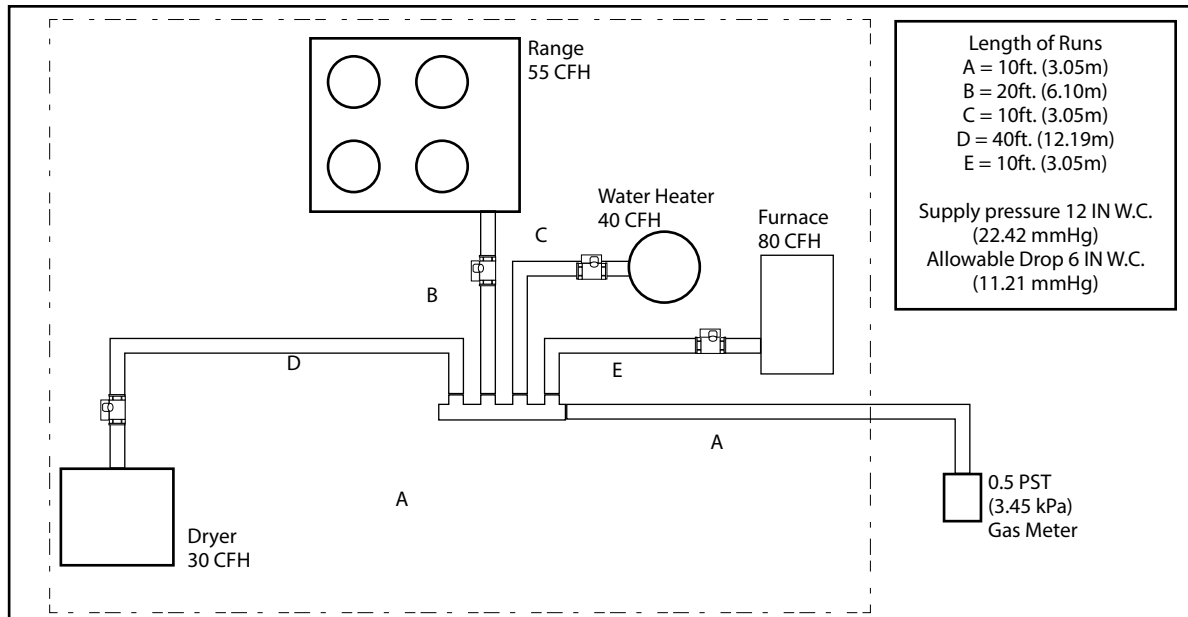

FIG. 3-3 Example 2 - Low Pressure System, 12 IN.W.C. (22.42mmHg) Parallel Arrangement
1. The system shown in FIG. 3-3 is typical of a single family installation with several appliances and medium loads. The appliances are installed apart instead of all together, and the arrangement chosen is parallel. The higher supply pressure of 12 in.W.C. (22.42mmHg) allows a higher pressure drop, 6 in.W.C. (11.21mmHg) than is available with low pressure systems.
- Select Table N-4 (Page 49) "Low Pressure 12 in.W.C. (22.42mmHg) with 6 in.W.C. (11.21mmHg drop). It shows that 1/2" (13) size is too small for 205 CFH at 50 ft. (15.24m), but size 3/4" (19) can handle 365 CFH.
**The correct size is 3/4" (19)**